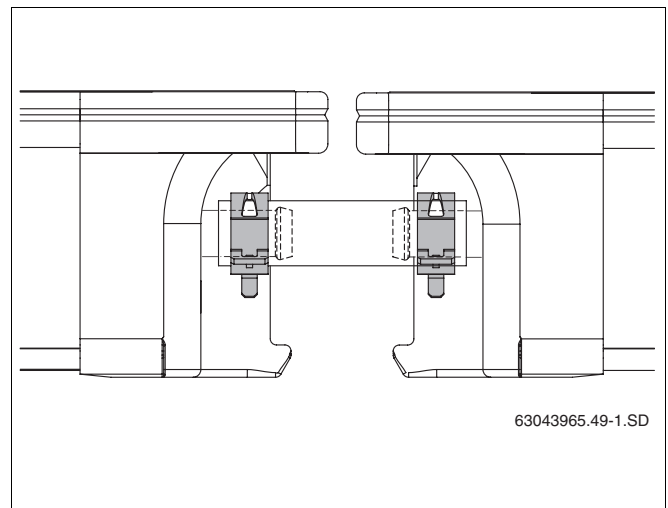

Fig. 28 Solar hose with secured hose clips
- ▶ Secure every solar hose to the collector connection using a hose clip (Fig. 28).